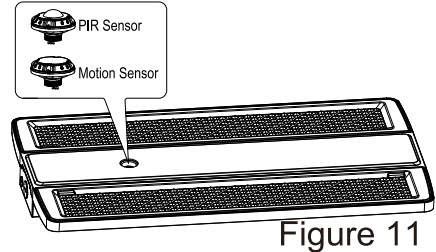

Figure 11
- Step2. Twist-lock the DC sensor to the base to make it work properly, use a remote control to adjust the working mode as per demand.(Figure 11)